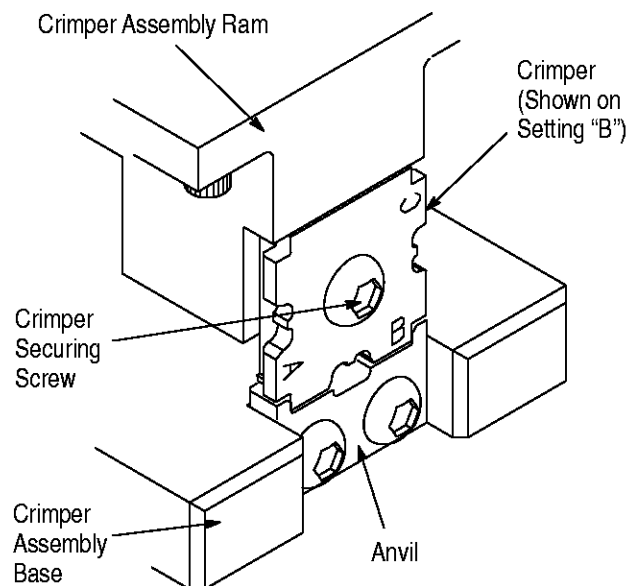

Figure 3
5. Select the appropriate crimper setting (A, B, or C) from the table in Figure NO TAG and attach the crimper to the crimper assembly ram. The appropriate setting indicator should be located in the lower right hand corner of the crimper (Figure 3).
6. Carefully lower the arbor frame ram until the crimper is seated squarely between the legs of the anvil. See Figure 3.